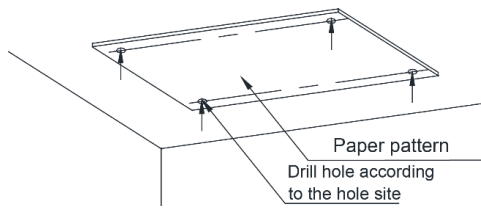
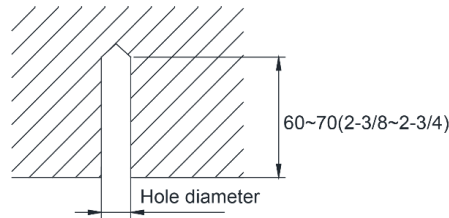

Fig 4.1.3
Fig 4.1.4
- 1) Stick the reference cardboard on the installation position; drill 4 holes according to the hole site on the cardboard as shown in fig 4.1.3; diameter of drilling hole is according to the diameter of expansion bolt and the depth is 60-70mm(2-3/8~2-3/4 in.), as shown in fig 4.1.4.